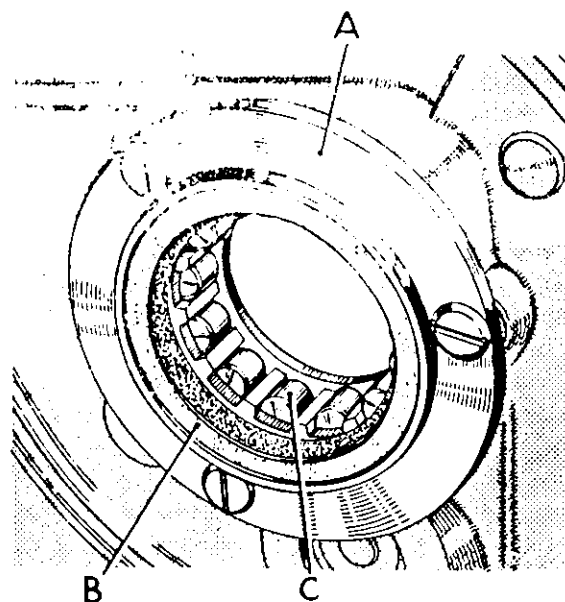

Fig. B96.
High gear must now be fitted into its roller bearing (C) Fig. B96. If the oil seal holder (A) was removed to replace the seal (B) this too must be reassembled. The threads of the three fixing screws must be lightly coated with "Loctite" grade AV. Fit the gearbox sprocket, lock-washer and nut. Tighten the nut to the torque specified on page J1.